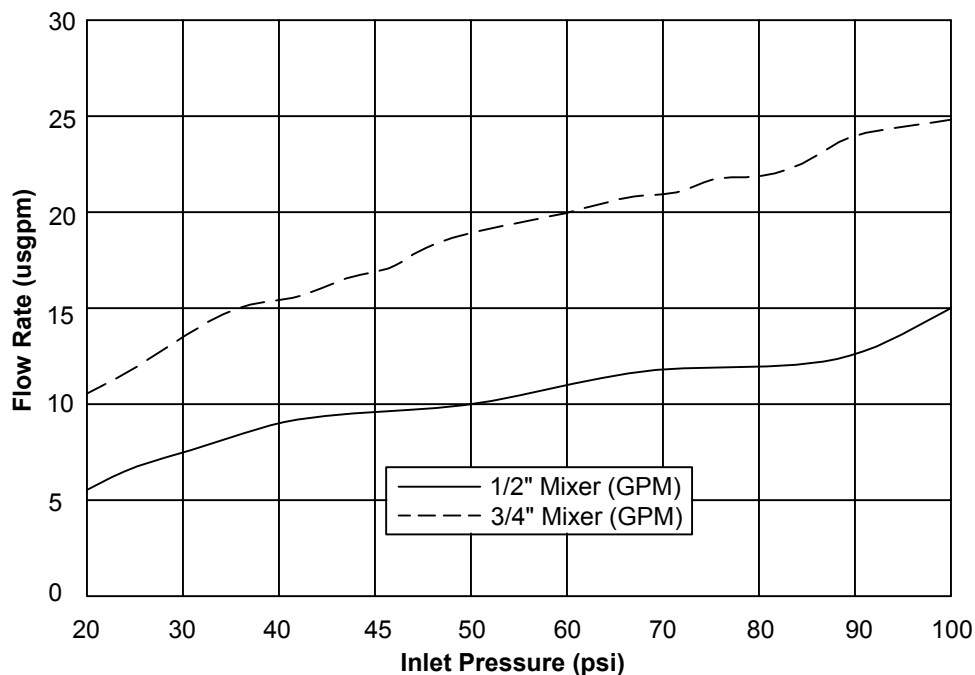

Fig. 1
- High flow rates allow for multiple showerhead applications (See Fig. 1)